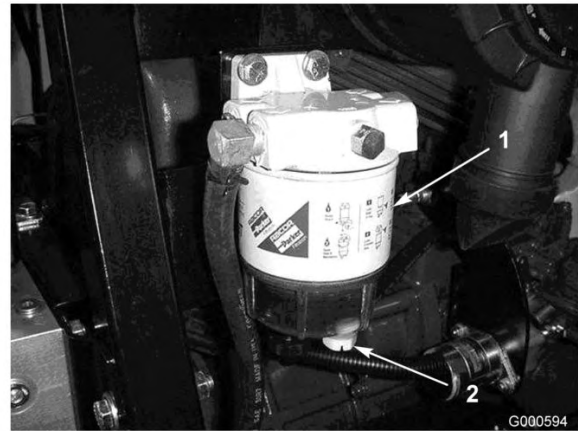

Figure 38
Drain water or other contaminants from the water separator (Figure 38) daily.
2. Loosen the drain plug on the bottom of the filter canister (Figure 38). Tighten the plug after draining.